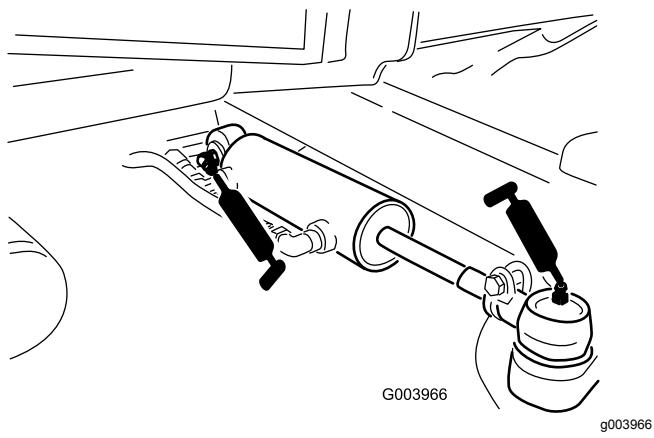

Figure 42
- Steering-cylinder ball joints (2) (Figure 42)